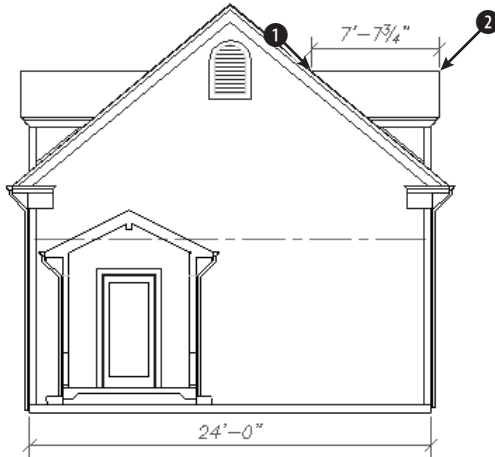

Figure 15-28: The dimension style is now complete.
- To see how the stacked fractions appear, create a linear dimension from 1 to 2 in Figure 15-28. If necessary, zoom in to see the dimension text clearly.
- Return to the previous view if you zoomed in. Save your drawing. It should look like Figure 15-28.